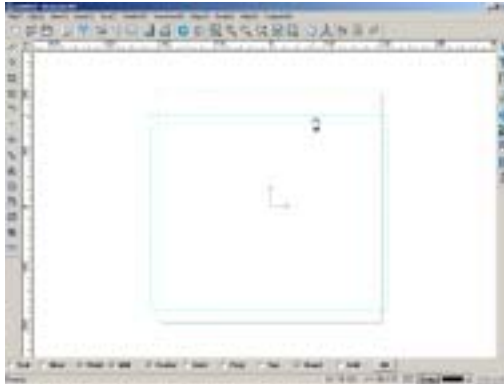

Fig. 3-45
3. Move  onto the shape to be measured. (Fig. 3-45)